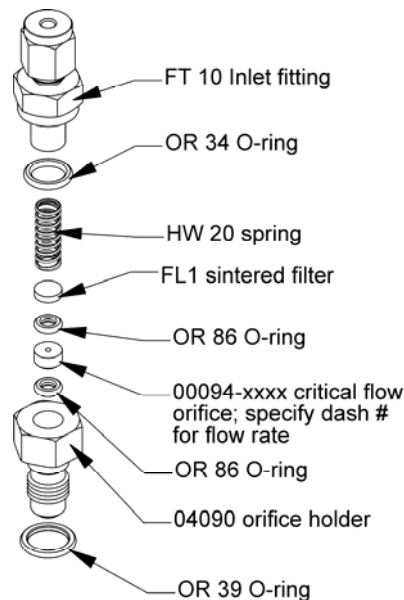

Figure 6-5: Critical Flow Orifice Assembly
- For orifices on the reaction cell (Figure 6-4): Unscrew the orifice holder with a 9/16" wrench. This part holds all components of the critical flow assembly as shown in Figure 6-5. Appendix B contains a list of spare part numbers.
- For orifices in the vacuum manifold: the assembly is similar to the one shown in Figure 6-5, but without the orifice holder, part number 04090, and bottom O-ring OR34 and with an NPT fitting in place of the FT 10 fitting.
7. Re-assemble the flow control assembly with new the parts (see Appendix B for part number or replacement kit) as shown in Figure 6-5 and re-connect them to the reaction cell manifold or the vacuum manifold.